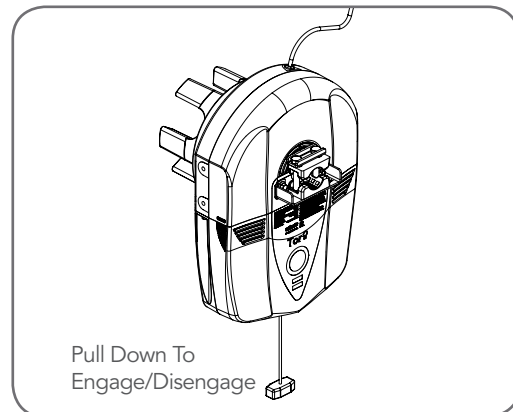

Fig 11.1
- b. Move the door to half way open. If necessary, disengage the opener by pulling the cord down (**Fig.11.1**). Re-engage the opener by pulling the cord down again.